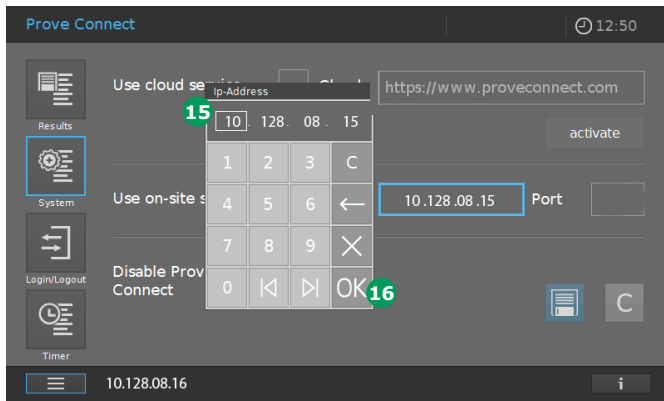

Figure 31 - Screen of Spectroquant® Prove / Prove plus (Figure 28) with entered IP address of the PC on which Prove Connect runs
8. On the Spectroquant® Prove / Prove plus, click in the field "IP address" (text box with the blue border) and the entry field appears 15 (Figure 31).
10. Confirm the entered IP address with "OK" 16 (Figure 31).